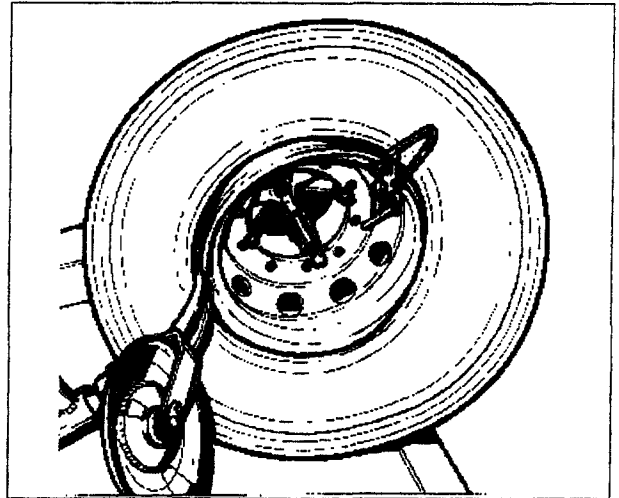

Fig.28
3. Lift the chuck arm and position the mounting hook or tubeless roller approximately 1.5 cm (2/3") to the inside of the rim edge and approx. 1 cm (1/2") away from the rim edge. The mounting clamp is at 11 approximately o'clock (Fig.28).